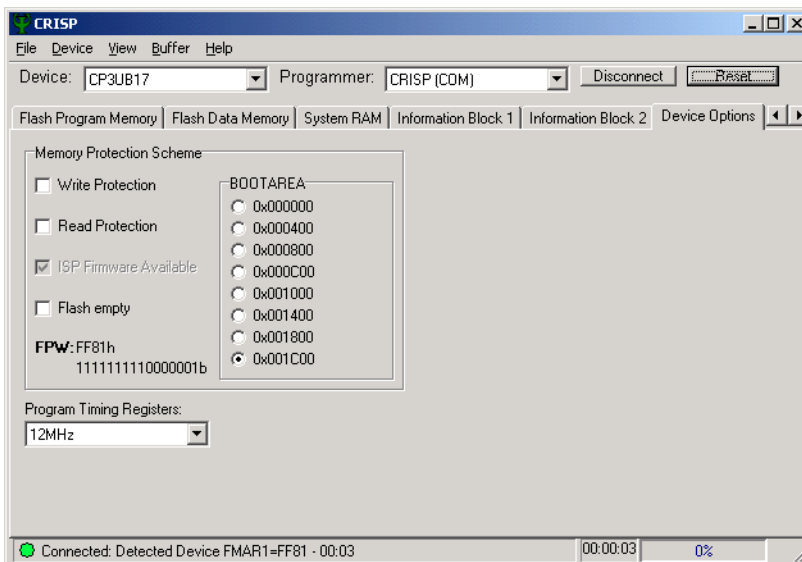

Figure 5-2. Screen after a Connection has been Successfully Established
2. **Connecting to the Target.** After a few seconds, the connection should be made, and the CRISP application will look like that shown in Figure 5-2.